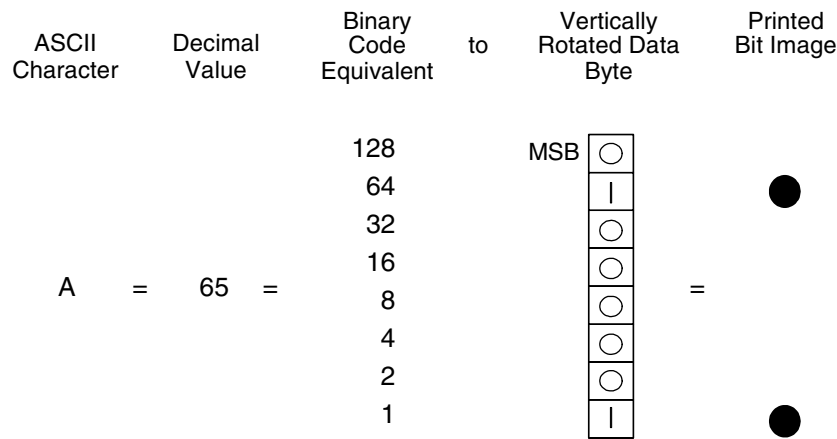
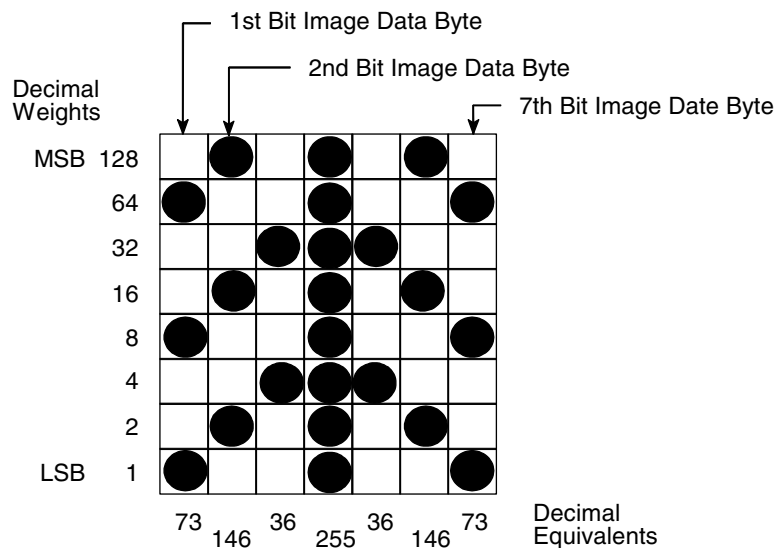

Figure 8. Bit Image Pattern from an ASCII Character
Figure 9. Bit Image Pattern Plan
The relationship between the ASCII character, its decimal value, and its bit image plot is shown in Figure 8. All 8 bits of the data byte are used in all fonts, but some fonts have taller and shorter characters. (You may have to adjust the line spacing in order to print without horizontal gaps.) Data bytes are identified by their binary, octal, hexadecimal, or decimal equivalents. These numeric equivalents are combined in data streams to form graphic patterns such as the one illustrated in Figure 9.
1. On a quadrille pad or graph paper, lay out the graphic pattern you want to print. (See Figure 9.)
The sample below shows the single density bit image pattern shown in Figure 9. The 7-byte pattern is repeated 40 times.